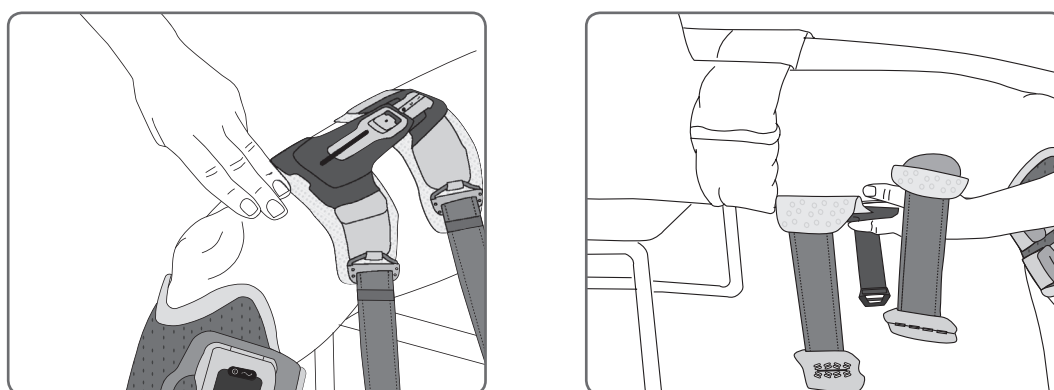

Figure 8-41: Donning the Thigh FS Cuff.
2. Position the Thigh FS Cuff locator approximately three finger widths proximal from the patella if stimulating the quadriceps or from the popliteal fossa if stimulating the hamstrings. See Figure 8-41.